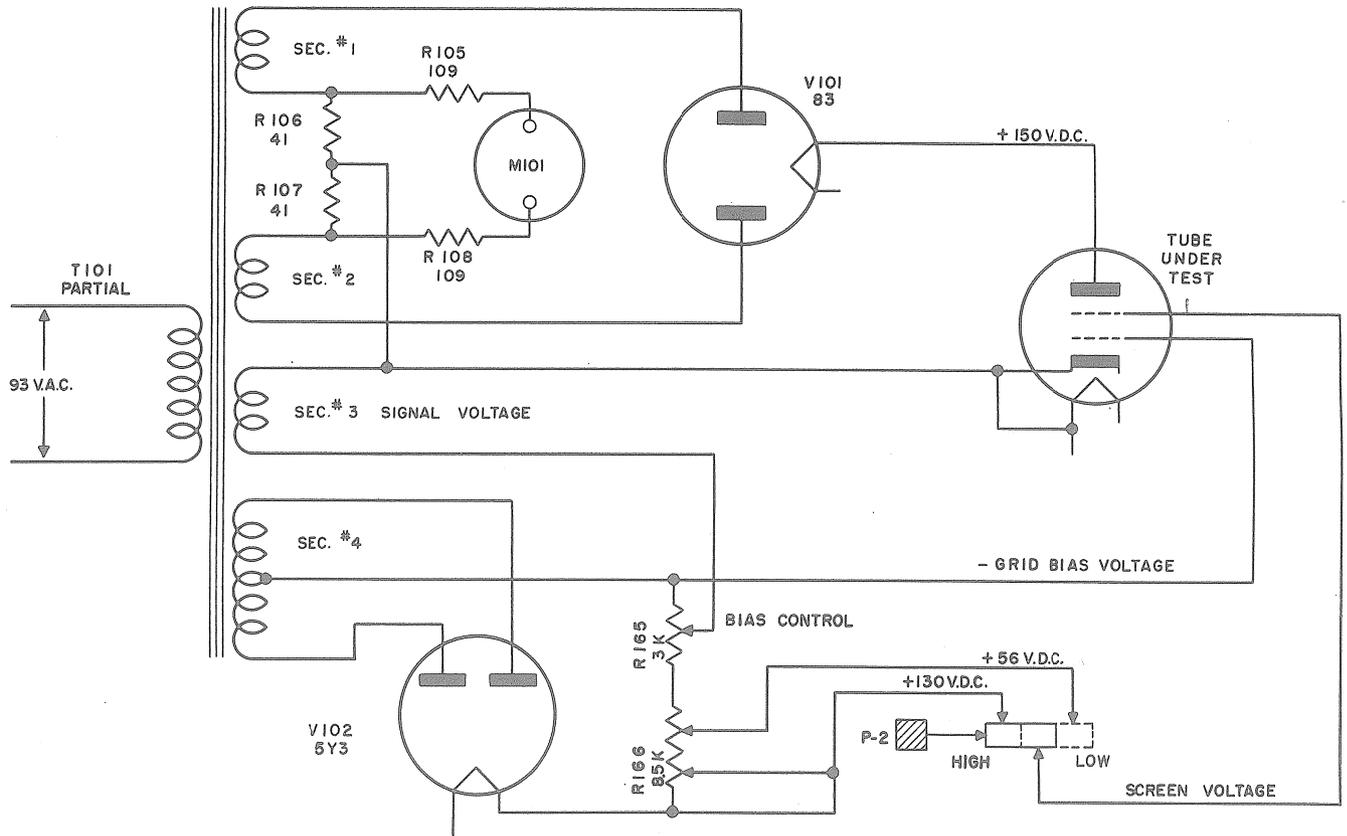

Figure 2-7.—Simplified Mutual Conductance Test Circuit.
(See Figure 2-7)
f. The normal screen voltage of 130 volts is excessive for testing certain tubes such as type 1R5. In such cases it is necessary to press push-button P-2 before pressing the red push-button P-3. Pressing P-2 operates switch S-110-2 and reduces the screen voltage to approximately 56 volts as illustrated by Figure 2-7.